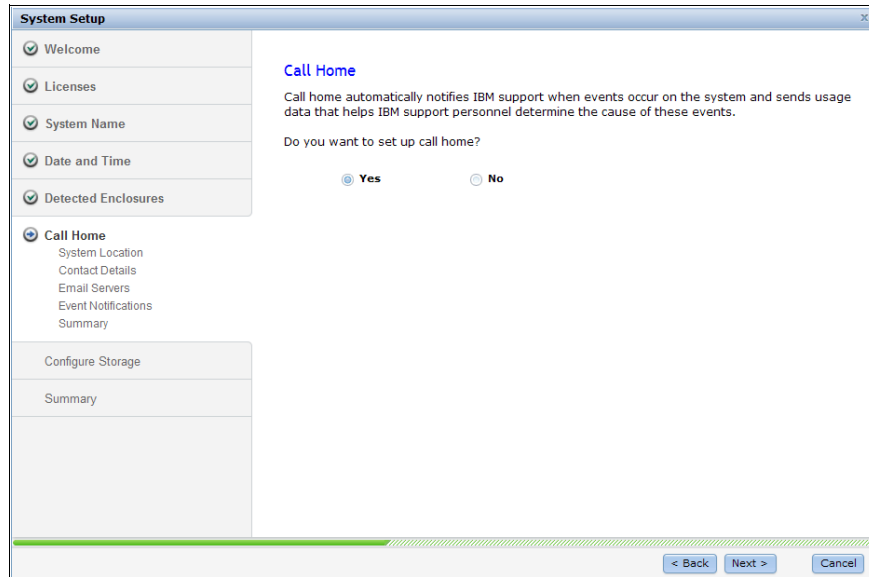

Figure 4-19 Configure Call Home - support notifications
6. Configure the Call Home function for support notifications and System location information. Select **Yes** and click **Next** to continue as shown in Figure 4-19.